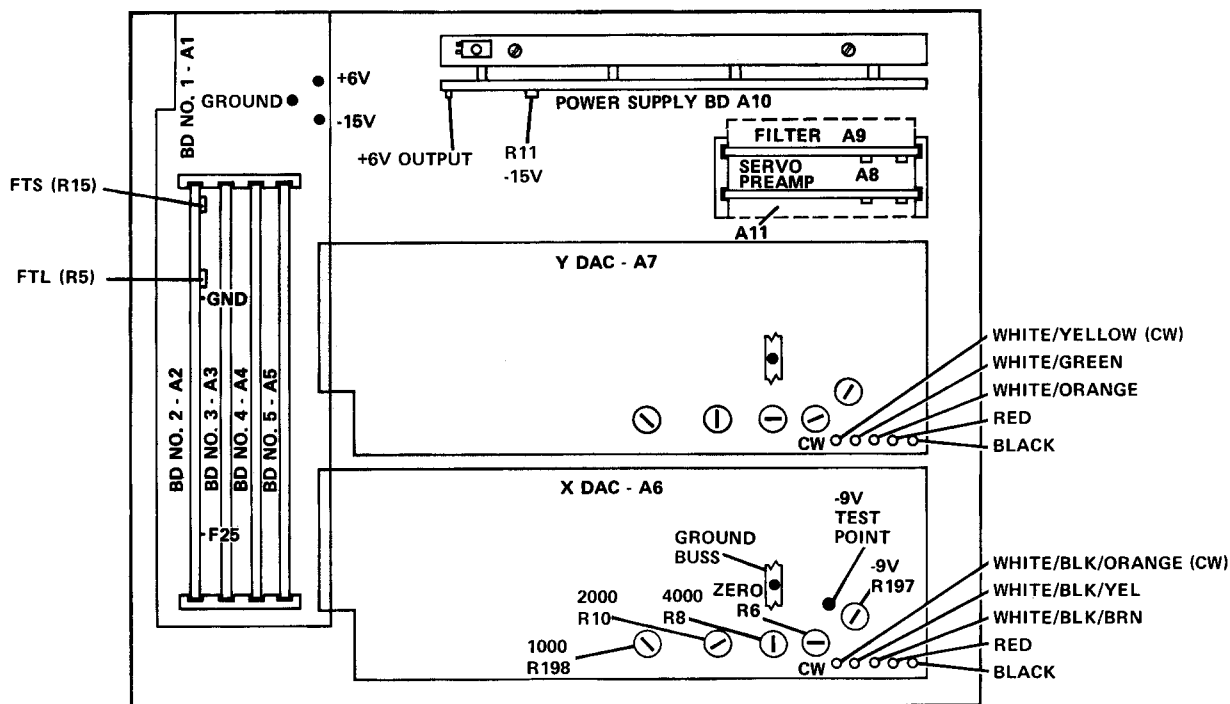

FIGURE 3-23. CARD LOCATION GUIDE
3-56. **SLIDEWIRE REFERENCE SUPPLY ADJUSTMENTS.** Perform the following tests with the HP 3460B DVM monitoring the points indicated in Table 3-3. Set the SERVO switch to STANDBY. See Figures 3-23 and 3-24 for locations of test points and adjustments.
- Monitor the short timer output at test point FTS relating to ground on same circuit board, and adjust the interval to 410 ms \pm 10 ms, using A2R15 (see Figure 3-23).
3-59. **LONG TIMER.** Monitor the long timer output at test point FTL and adjust the interval to 665 ms \pm 15 ms, using A2R5 (see Figure 3-23).
Above referenced to digital ground, A1 (ground). See Figure 3-23.
Above referenced to the respective DAC ground buss. See Figure 3-23.
Above referenced to the respective axis amplifier common (see Figures 3-23 and 3-24).
b. Use the 3460 DVM to make all DAC output voltage measurements. Connect the negative lead to CW terminal (see Figure 3-23) and positive lead to the ground buss on the appropriate DAC.